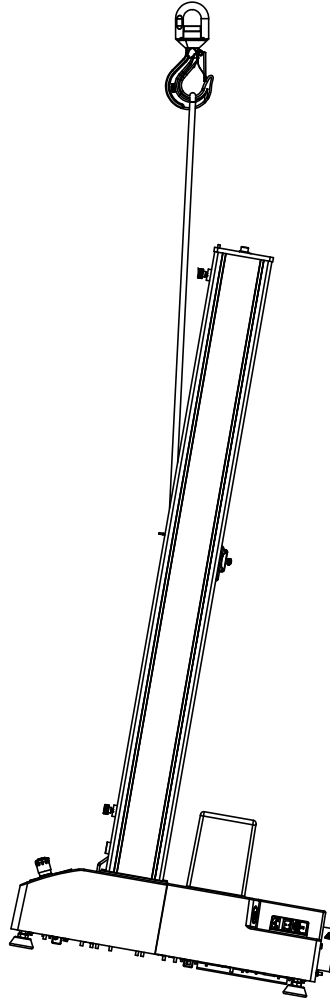

Figure 13. Lifting Load Frame with a Crane
1. Attach the lifting sling to the crosshead and secure it to the crane hook such that the sling extends vertically from the FRONT of the crosshead as shown in Figure 13 on page 67. If you use chains in lieu of a lifting sling, wrap protective material around the crosshead to protect the crosshead from scratching and marring.